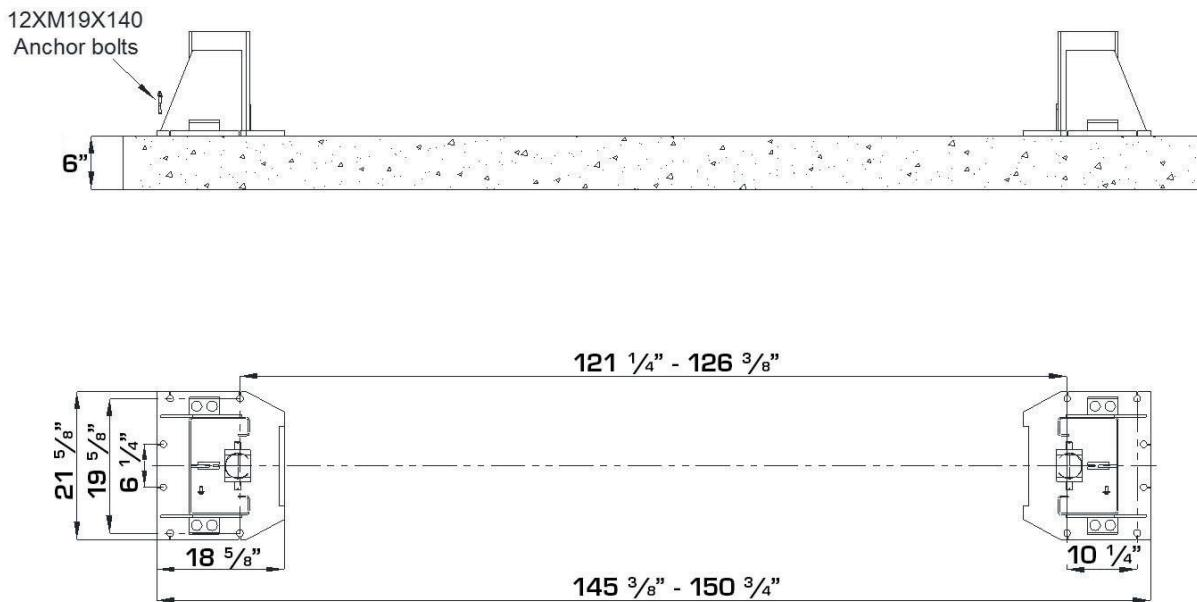

Figure 8 - Floor Plan
- Now locate the lift according to the floor plan the figure 8, use a carpenters chalk line to layout a grid for the column locations.